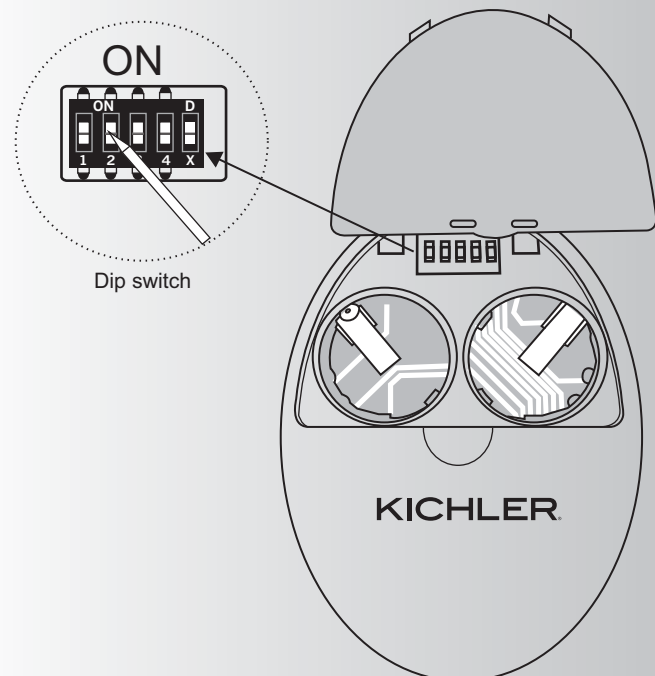

Fig. 19
The Frequency Selector is a "Dip Switch Block" inside the Battery compartment of the Transmitter. (See figure 19) You change frequencies by arranging the small switches numbered 1 through 4 in a up or down position. 16 possible frequencies or combinations are possible.
3. Test the transmitter by pushing and releasing ANY button briefly. A Blue Light should illuminate under the 3-4 buttons. (Fig. 19) If not, check to make sure the batteries are inserted and seated correctly.